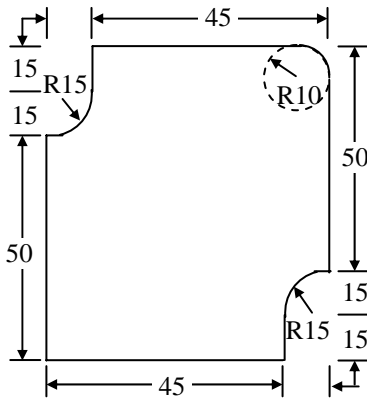

Fig. 4
7. Prepare NC program in APT for machining the contour shown in Fig.4 with two passes one with rough-cut and other with finish cut.